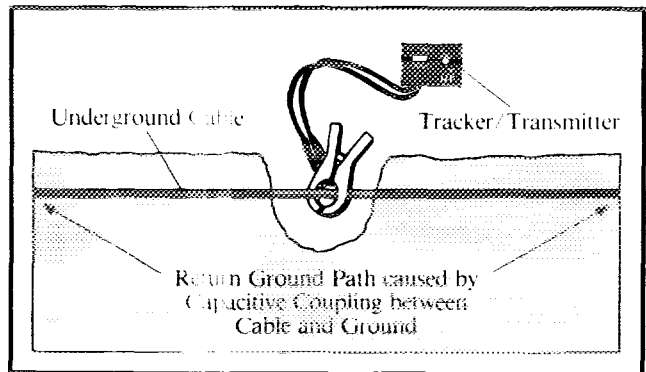

Figure 8 Mid Run Coupling
2. **MID RUN COUPLING:** If the subject cable is relatively long, current is permitted to flow back through earth as tone is transmitted in both directions. (See Figure 8)